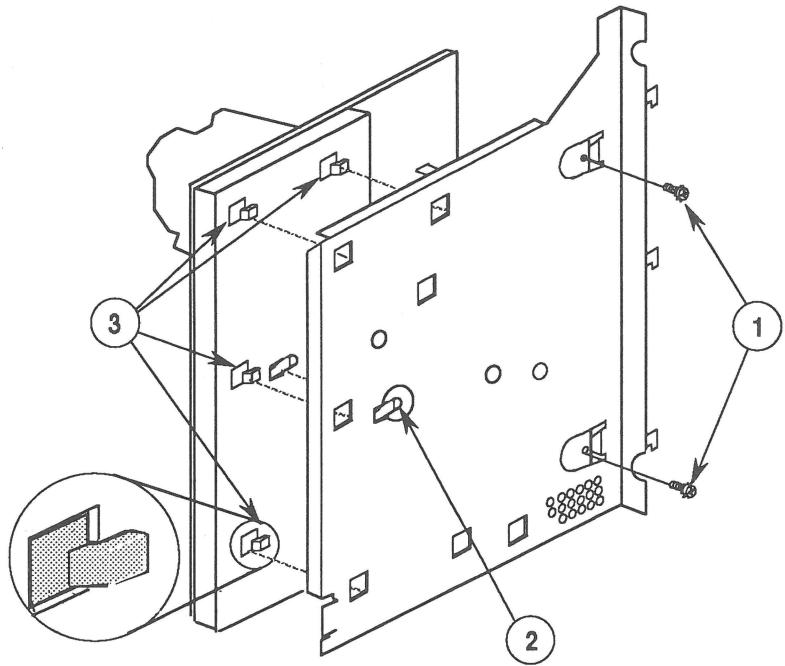

FIGURE 40
11. Remove the two screws with lockwashers (Figure 40, #1) from the outside of the right chassis panel.
12. Depress the plastic release latch inside the access hole (Figure 40, #2) in the chassis panel, and pull the main deflection board off the chassis.
1. Replace the main deflection board on the chassis. To do this, locate the five tabs (Figure 40, #3) at the back of the plastic cover, and hook the five tabs through five holes in the chassis panel. Then slide the panel toward the CRT to seat it on the chassis.
2. Replace the two mounting screws with lockwashers (Figure 40, #1).